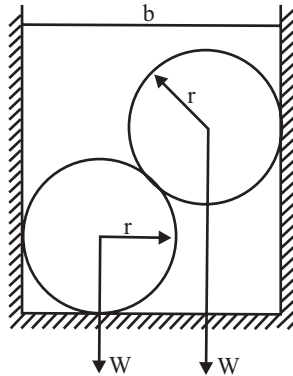

Fig 3
- Q.3.** Two smooth spheres each of weight W and each of radius r are in equilibrium in a horizontal channel of width $b = 4r$ and vertical sides as shown in fig 3. Find the three reactions from the sides